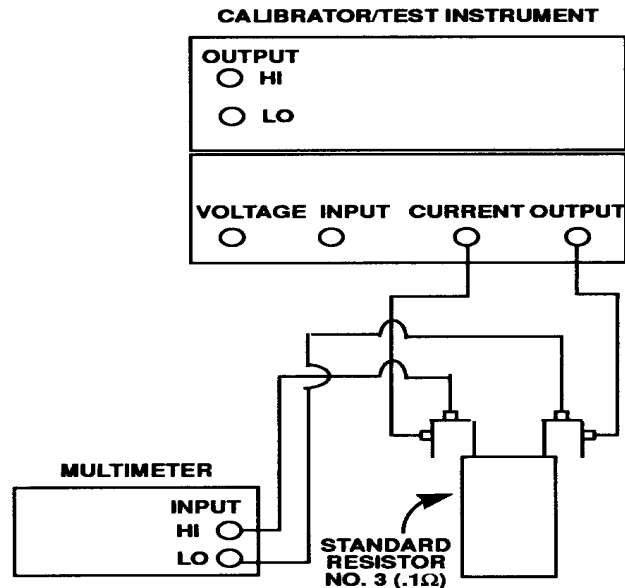

Figure 19. Dc current.
c. Connect equipment as shown in figure 19, except do not connect calibrator to TI at this point.
(3) Allow approximately 10 minutes for stabilization; then record multimeter indication.
(4) Calculate output current by dividing multimeter indication by test report value for standard resistor No. 4. Resulting value will be between 9.996 and 10.004 A (4.9975 and 5.0025); if not, perform **b** below.
(5) Press +/- then **ENTER** pushbuttons.
(6) Repeat technique of (3) and (4) above with a -10.0 A dc output. Resulting value will be between -9.996 and -10.004 A (-4.9975 and -5.0025).
(7) Repeat technique of (2) through (6) above for 5 A dc, using values in parenthesis.
(8) Replace standard resistor No. 4 (.01 Ω) with standard resistor No. 5 (.001 Ω).
(9) Set TI for a +20.0 A dc output.
(10) Repeat technique of (3) and (4) above for 20 A. Calculated value will be between 19.987 and 20.013 A.
(11) Set to **STANDBY**.
b. Adjustments. Adjust R3 on the A5 preamplifier assembly (fig. 19) for an indication on the multimeter that is 10 times the test report value of standard resistor No. 4 ± 0.002 mV (multimeter indication). For example, if the test report value is 0.0100253 Ω , adjust R3 for a multimeter indication of 0.100253 V dc ± 0.002 mV dc. (R)